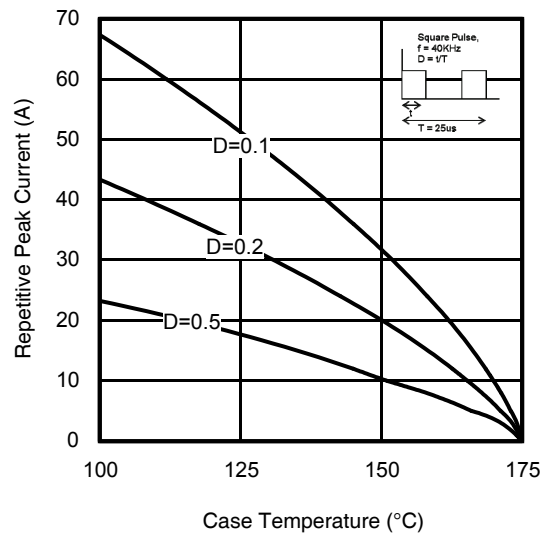

Fig 26. Maximum Diode Repetitive Forward Peak Current vs. Case Temperature
- ① V_{CC} = 80% (V_{CES}), V_{GE} = 20V, R_G = 10Ω, L = 1.0mH.
- ② R_θ is measured at T_J of approximately 90°C.
- ③ Refer to AN-1086 for guidelines for measuring V_{(BR)CES} safely.
- ④ Pulse width limited by max. junction temperature.
- ⑤ Values influenced by parasitic L and C in measurement.
- ⑥ f_{sw} = 40KHz, refer to figure 26.